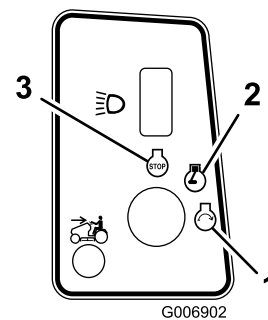

Figure 10
2. Turn the ignition key to Off, wait for all moving parts to stop, and remove the key before leaving the operating position. (Figure 10).
5. Turn the ignition key clockwise and hold it in the Start position (Figure 10). When the engine starts, release the key.